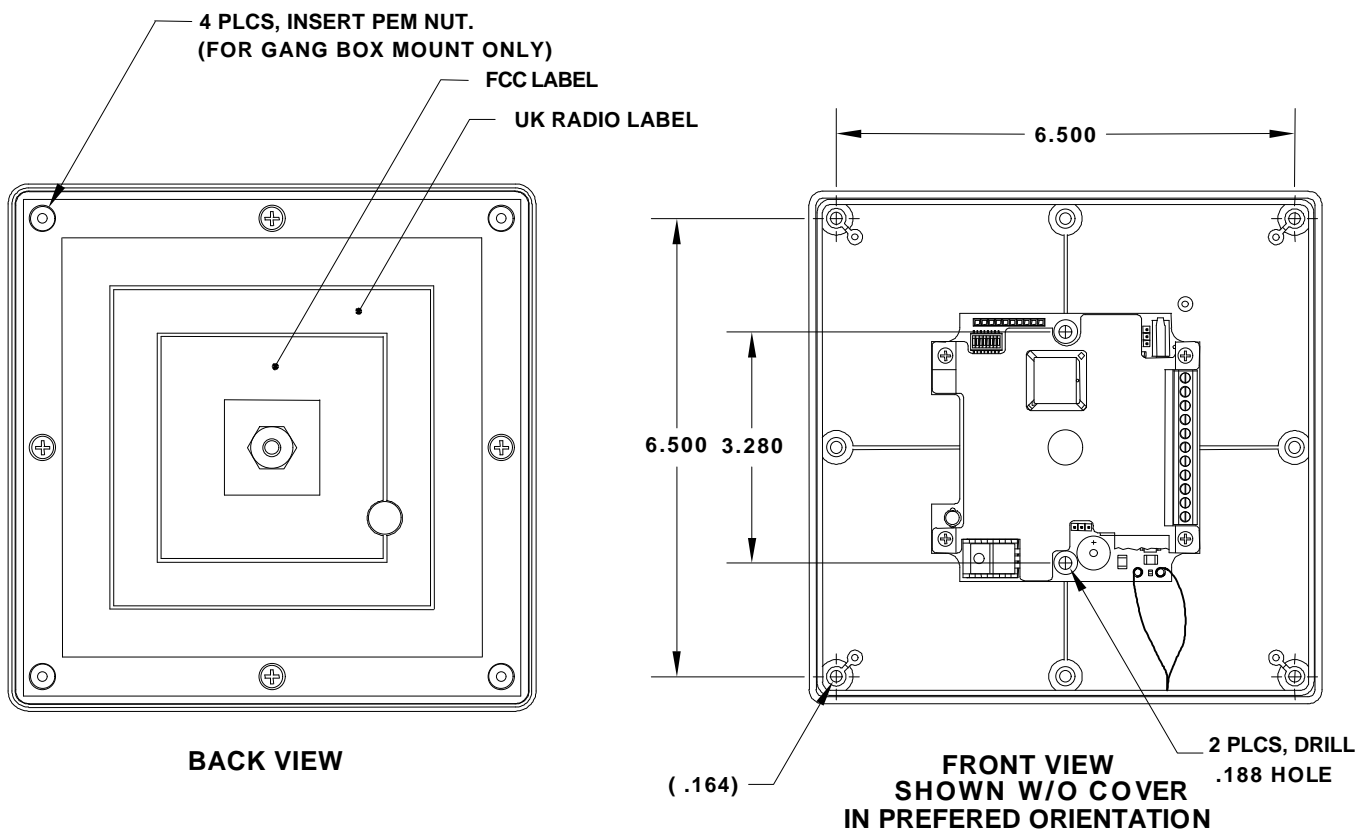

FIGURE 5
- Drill a Ø.188 hole in the 2 locations shown in figure 5.